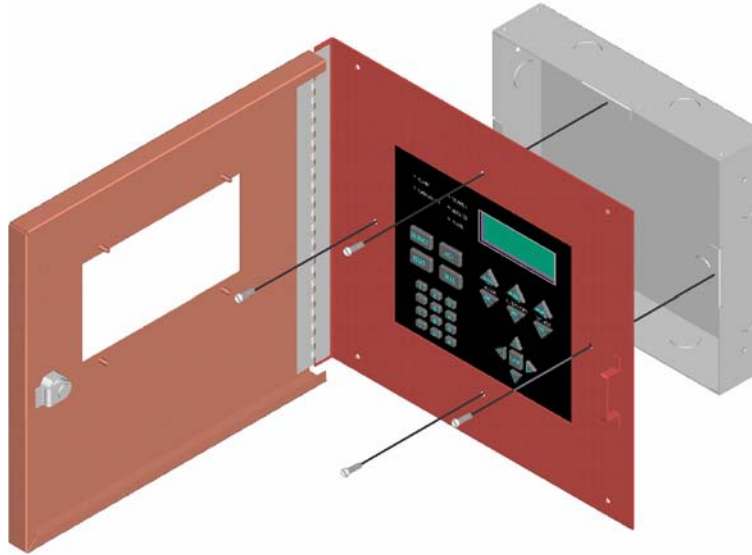

Figure 4.16 Attaching Annunciator/Door Assembly to Backbox
4. Attach the annunciator and door assembly to back box as shown in Figure 4.16 using the supplied screws.